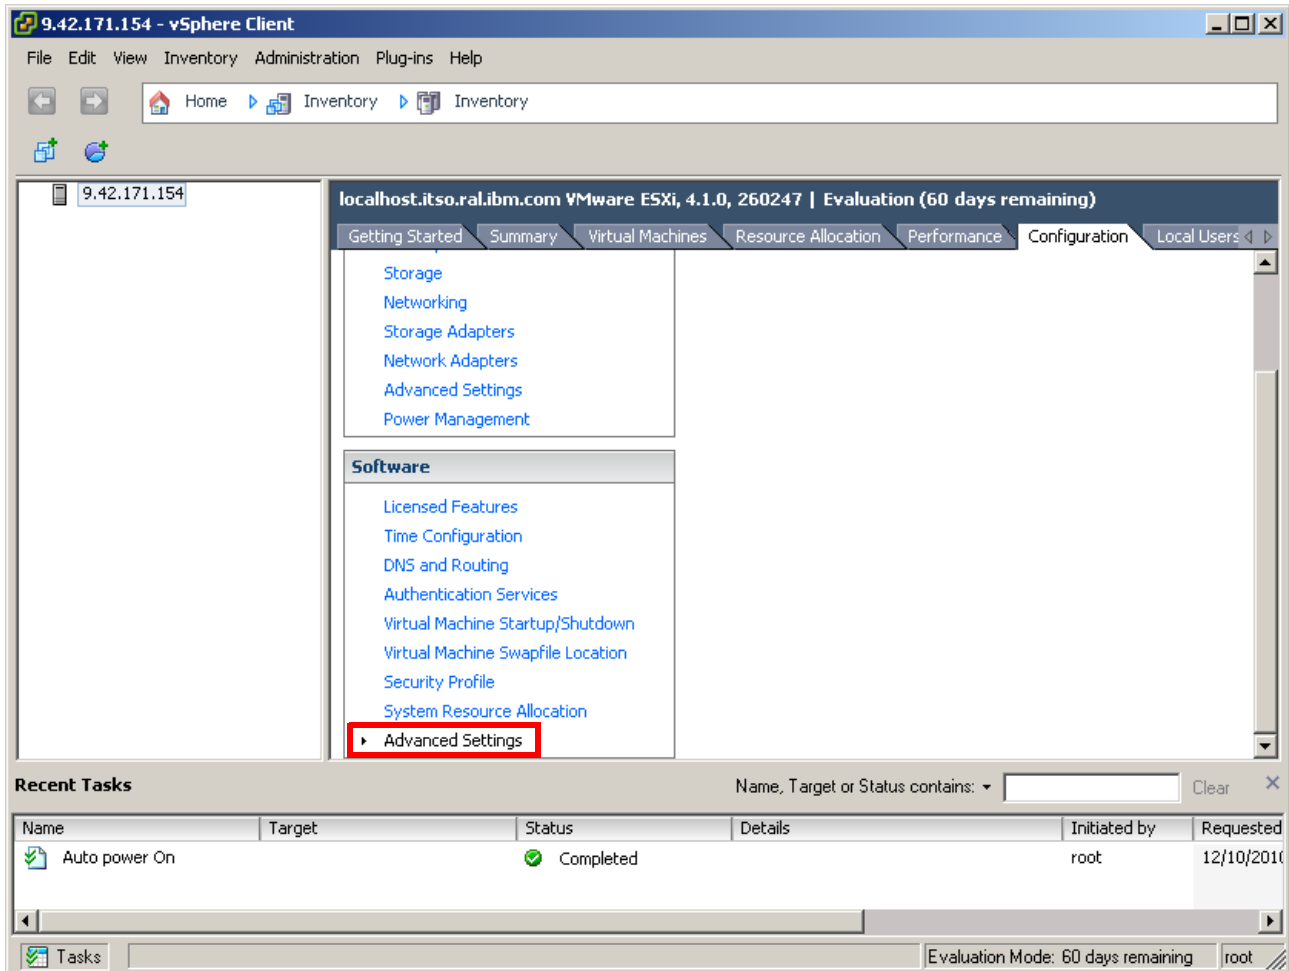

Figure 6-51 Advanced Settings in vSphere Client
5. Select the **Configuration** tab of the host and click **Advanced Settings** under Software, as shown in Figure 6-51.